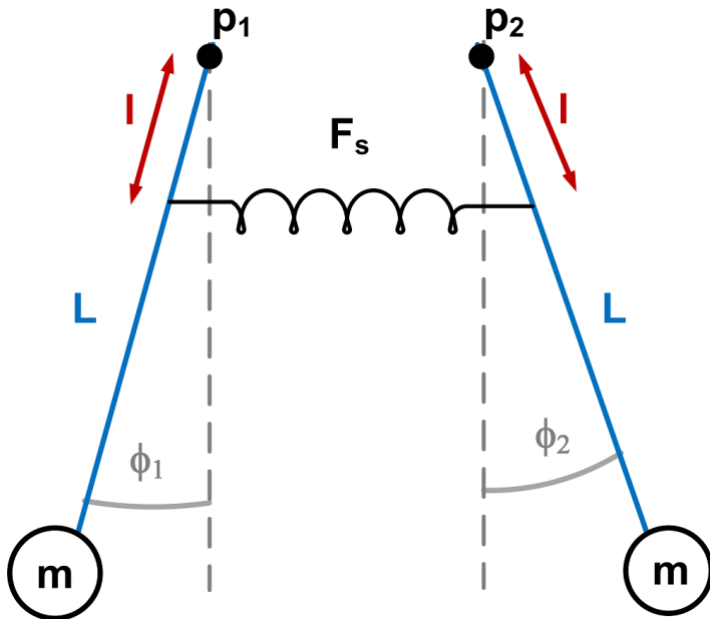

Figure 1. Schematic of a coupled pendulum.
First label the forces in Figure 1 . Resolve the forces in linear coordinates to start with.
1. For the forces in Figure 1 write a general equation for the total force (Newton's second law of motion) of the system. Your equation should have the general form total torque = summation over individual torques⁴.
2. Write the torques (τ) in terms of linear forces (F) and radii (r). This step is important because you can only measure the components of the linear forces⁵.